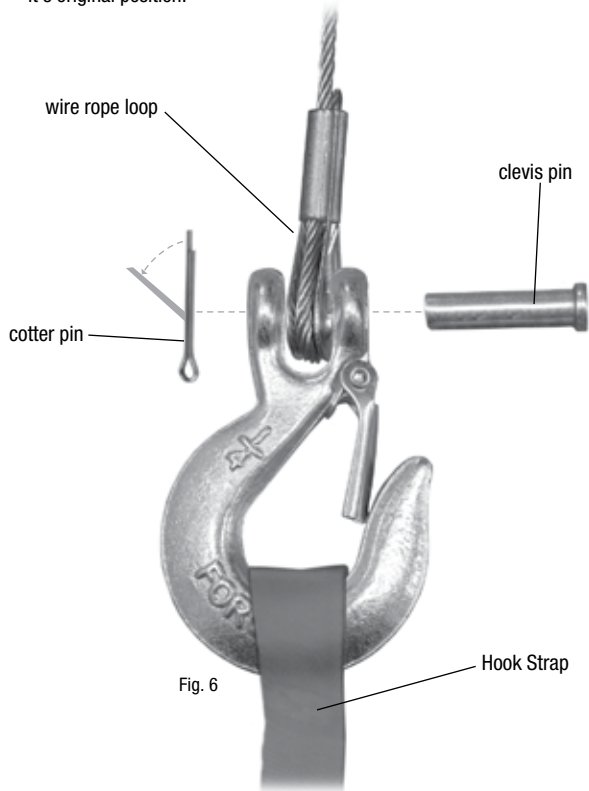

Fig. 6
- Straighten the bent leg on the cotter pin on the winch hook and remove the cotter pin and clevis pin. Attach the winch hook to the wire rope loop as shown in figure 6. Replace the cotter pin and bend the cotter pin leg back to its original position.